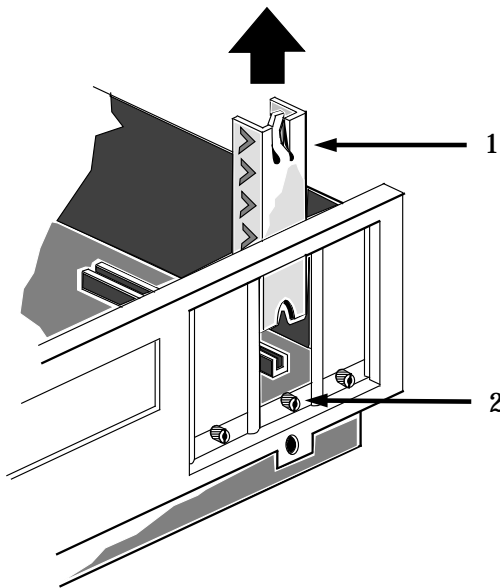

Figure 2-2. Backplate Detail
- Remove the protective backplate (1) from the selected slot, as shown in Figure 2-2. Loosen the thumbscrew (2) holding the backplate (1) in place over the selected slot, and slide the backplate out of the slot.